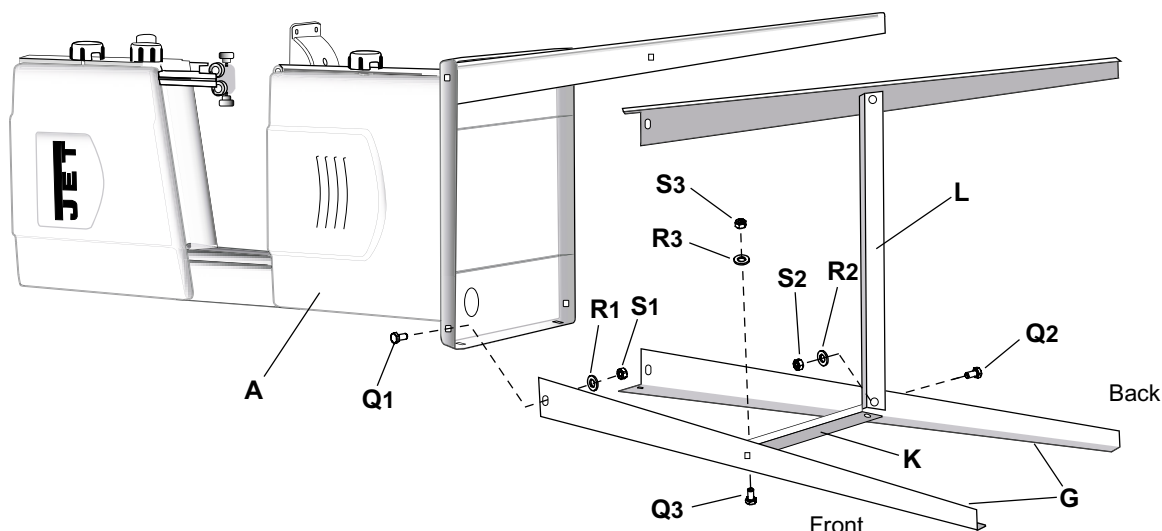

Figure 1
Referring to Figure 1:
1. Place the *band saw* (A) on its back as shown above, either on the floor or preferably on a workbench.
2. Assemble four *legs* (G) to the inside of the base of the bandsaw, securing each leg with two ea. M8x16 *carriage bolts* (Q1), M8 *flat washers* (R1) and M8 *hex nuts* (S1). Hand-tighten only at this time.
3. Attach a *long plate* (L) to the *rear legs* as shown in Figure 1. Secure with 2 ea M8x16 *carriage bolts* (Q2), M8 *flat washers* (R2), and M8 *hex nuts* (S2). Hand-tighten only at this time.
5. Attach two *short plates* (K) to the right legs and left legs in the same manner. Secure each leg with 2 ea M8x16 *carriage bolts* (Q3), M8 *flat washers* (R3), and M8 *hex nuts* (S3). Hand-tighten only at this time.